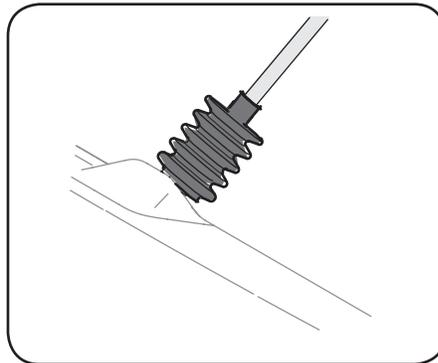

Figure 2-13
6. Slide the rubber bellow over the universal joint. See Figure 2-13.